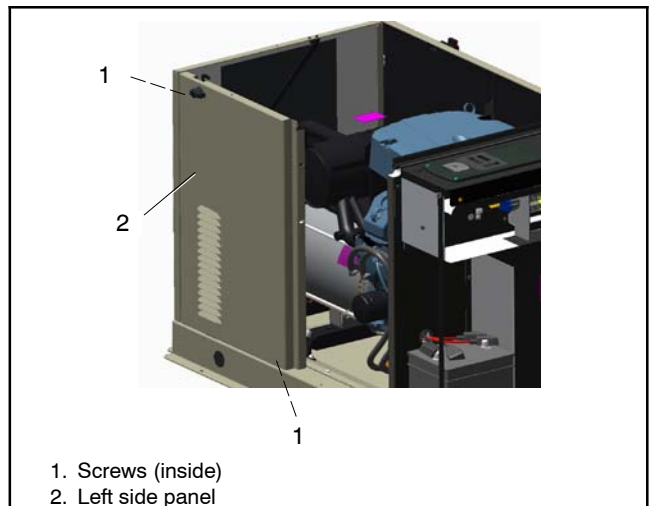

Figure 7-15 Left Side Panel Removal
- From the inside of the enclosure, remove the screws to remove the left side panel. See Figure 7-15.